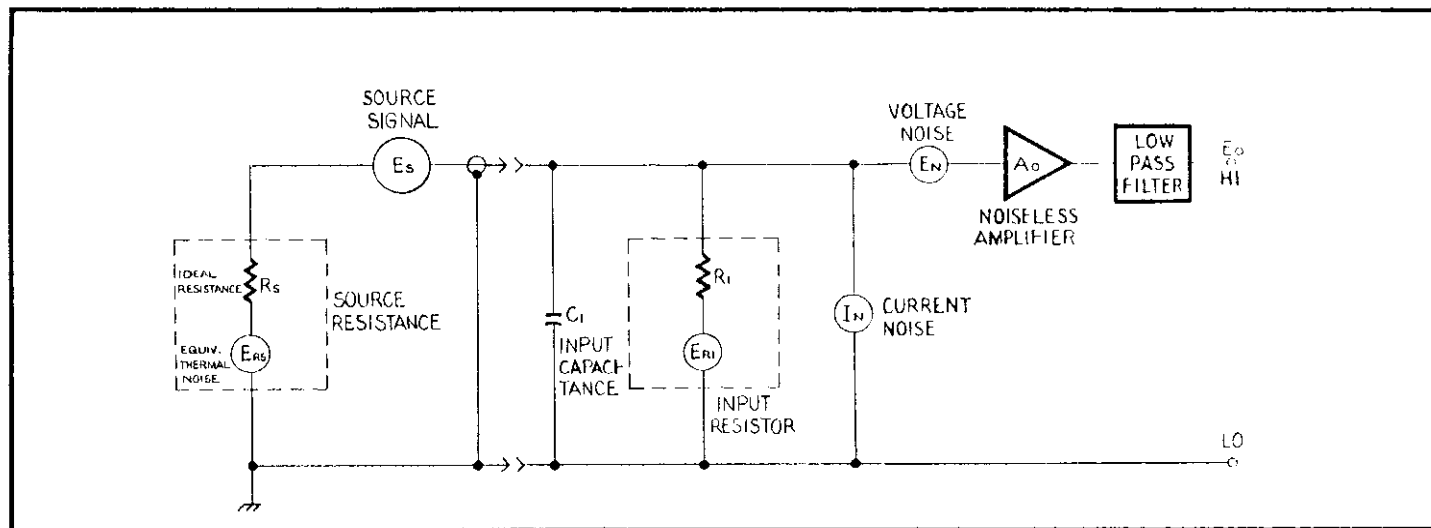

FIGURE 10. Equivalent Circuit For Noise Analysis.
f. Signal-to-Noise Ratio. The Signal-to-Noise Ratio (SNR) is a quantitative expression for the relative amount of noise which would tend to obscure the signal of interest. In order to evaluate the SNR for the amplifier it is necessary to identify all noise sources associated with the amplifier as well as the source itself. For the purpose of evaluating the Model 103 the equivalent circuit of Figure 10 will be used. The Model 103A has been characterized as a noiseless amplifier with the following noise generating or frequency dependent factors.
Using the parameters derived from the equivalent circuit of Figure 10 the NF for the Model 103A can be expressed as follows: (for a 1 Hz noise bandwidth) Eq. 5b